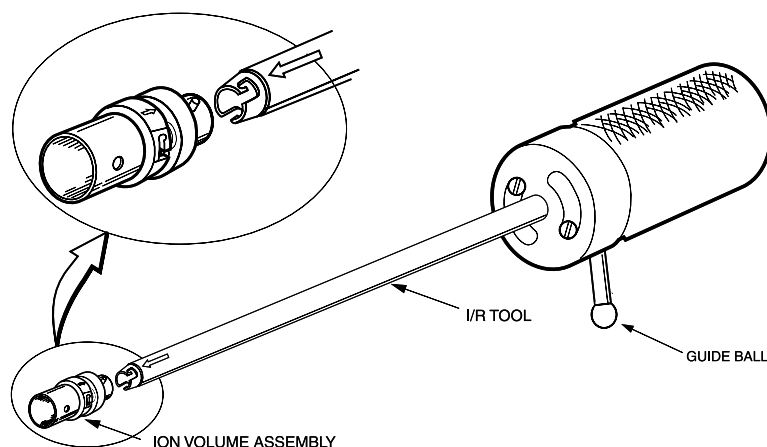

Figure 8-5. Placing the Ion Volume Assembly on the I/R Tool
1. Place the ion volume assembly into the bayonet lock on the tip of the I/R tool with the arrows on the ion volume and on the tip of the I/R tool facing each other, as illustrated in Figure 8-5.
CAUTION: Do not withdraw the I/R tool beyond the point where the guide ball reaches the step in the guide bar until the ball valve has been closed. Otherwise, the system is vented to the atmosphere. See Figure 8-5 on page 8-16 for correct placement of the ion volume assembly.